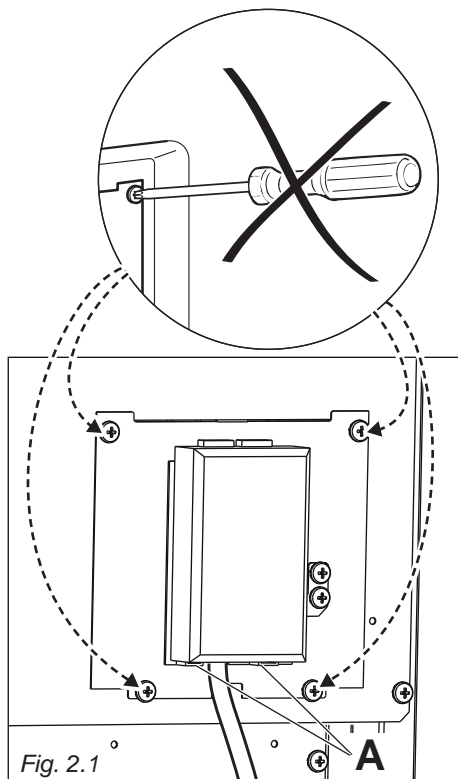

Fig. 2.1
- Unhook the terminal board cover by inserting a screwdriver into the two hooks "A" (fig. 2.1).